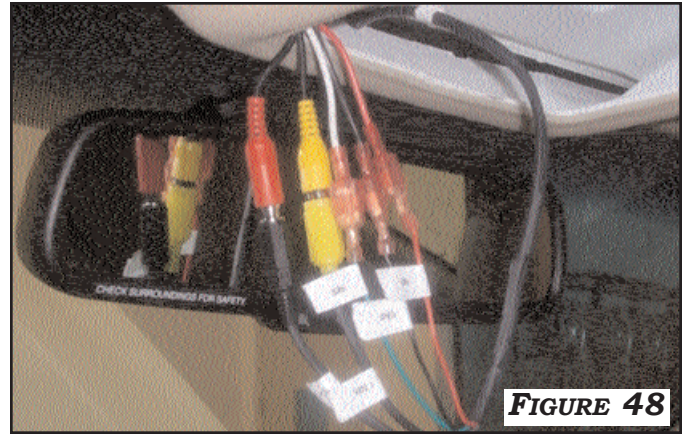
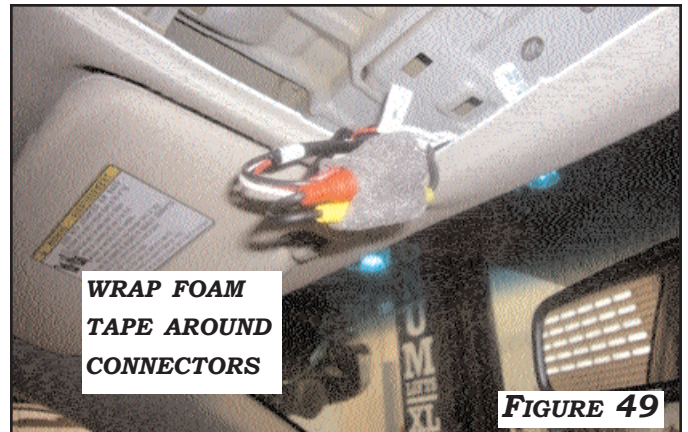

FIGURE 48
FIGURE 49
3. CONNECT **MALE RCA** VIDEO CONNECTOR OF CAMERA EXTENSION HARNESS TO **VIDEO** INPUT (YELLOW CONNECTOR) OF MIRROR HARNESS. CONNECT **MALE DC** POWER CONNECTOR OF CAMERA EXTENSION HARNESS TO CAMERA **POWER** OUTPUT (BLACK CONNECTOR) OF REARSIGHT MIRROR HARNESS. CONNECT RED, WHITE, AND BLACK WIRES OF POWER EXTENSION HARNESS AS SHOWN IN **FIGURE 48**. WRAP ALL **RCA** AND **DC** CONNECTORS WITH THE FOAM TAPE PROVIDED. **FIGURE 49**